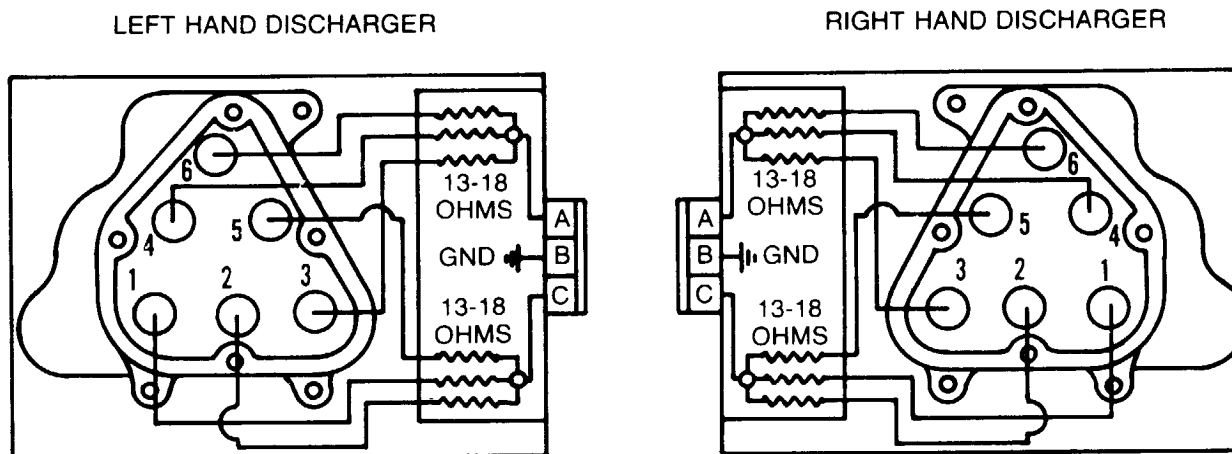

Figure 1-1. Launcher wiring diagram
a. *Electrical Connections.* The launcher uses the vehicle's electrical system. Electrical receptacle connector on each discharger (fig. 1-1) connects them to electrical cables in the vehicle.